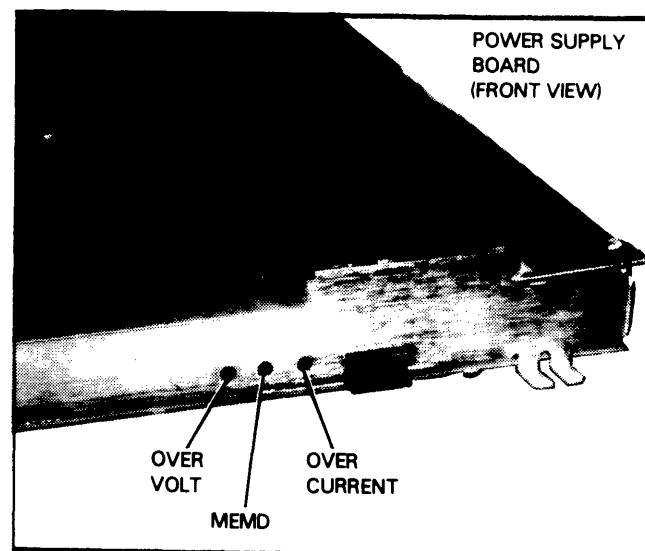

Figure 6.2 Power Supply Board Indicator Lights
2. Check the indicator lights on the front end of the power supply board (see Figure 6.2). If they are all out, go to "Voltage Checkout"; otherwise, turn the power off and then on again. If any of the lights turn on again, follow the procedure below for the lights which are on. Whenever you replace a unit, repeat this step.
The 16-slot chassis has three additional indicator lights which give further status information. These lights are located on the front of the power supply board as shown in Figure 6.2.